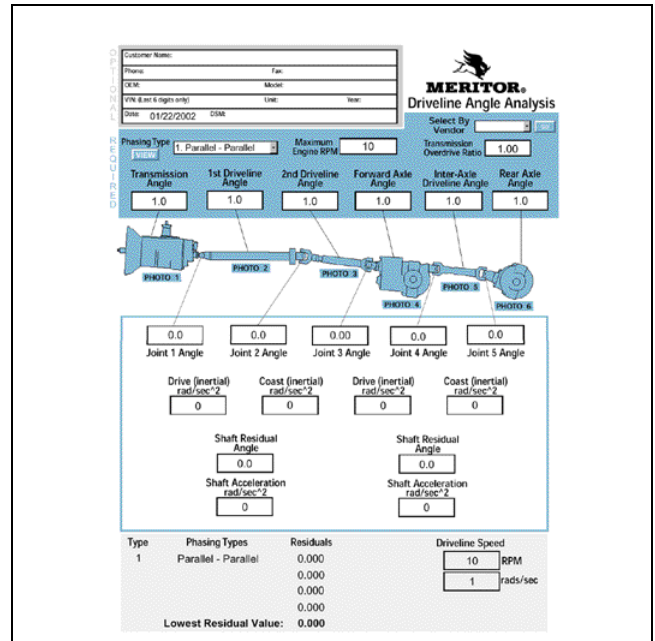

Figure 13.23
1. Enter the following optional information in the appropriate fields at the top of the screen. Figure 13.23.
2. Enter the maximum engine RPM. Figure 13.23.
3. Enter the transmission overdrive ratio. This value should be less than 1. For direct drive applications, enter 1. Figure 13.23. Click the **Select By Vendor** pull-down menu. Click on the **GO** button. The screen will display lists of transmissions by manufacturer. You can select your specific transmission model and ratio from these lists.